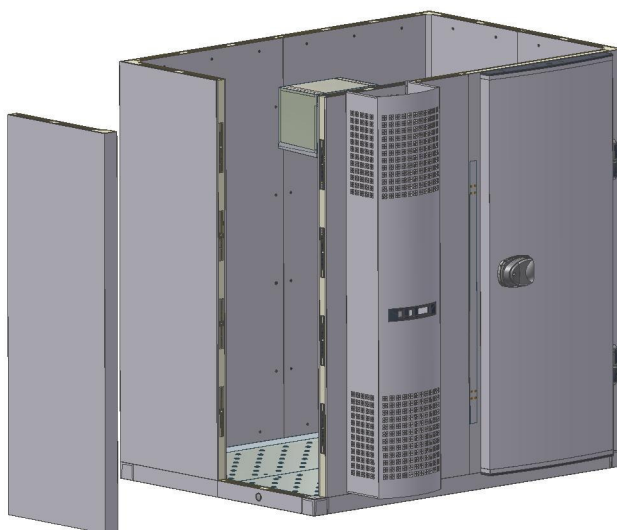

Fig. 6
- The last panels to be assembled are the ceiling panels (Fig.6).